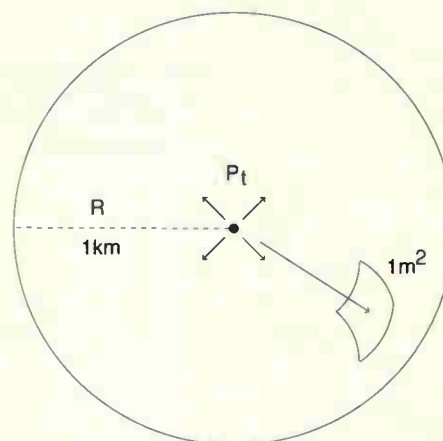

Fig. 2. An ideal isotropic antenna radiates energy into space with equal intensity in every direction.
Figure 2 shows an ideal isotropic antenna located in free space, radiating a power P_t . Resulting power density D , in watts per square metre, at a range d , in metres, is given by,
ideal isotropic antenna identical to that of Fig. 2 – i.e. also appropriate to the frequency concerned – immersed in the field given by expression (2). It will pick up an amount of power determined by its effective area, known as its ‘effective aperture’. The effective aperture A , in square metres, of an isotropic antenna suitable for operating at a frequency f MHz is given by,